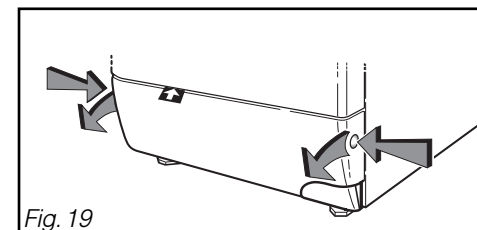

Fig. 19
- Remove the baseboard (Fig. 19).